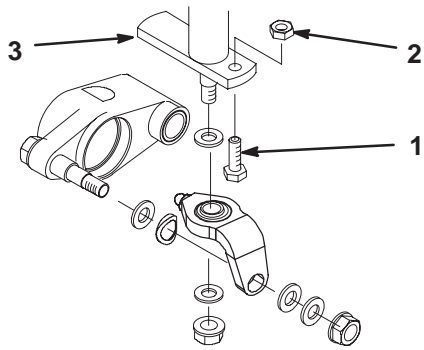

Figure 11
33. For cutting unit models 04480 through 04483 with serial numbers 200999999 and earlier, and a 2-1/2 in. front roller, add a screw (1/4 x 1/2 in.) and nut (1/4 in.) to the hole in the right and left-hand roller bracket assemblies (Fig. 11).